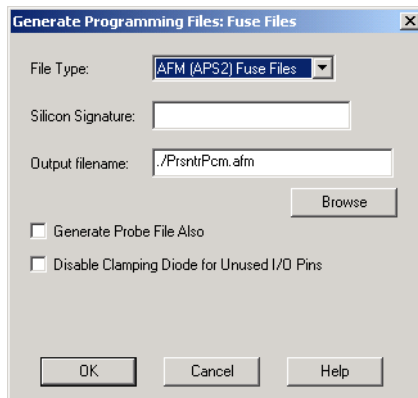

Figure 10-1. Generate Fuse File Dialog Box
1. **In the Tools menu, click *Fuse* or click the *Fuse* button in the Design Flow window.** This displays the Generate Fuse file dialog box (Figure 10-1).